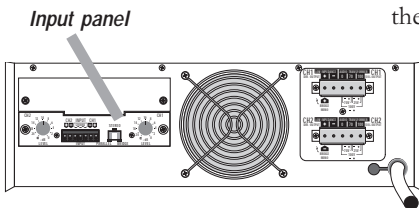

Figure 2a. The input panel's location on the rear panel of the amp
- 2 Position the amplifier so the rear of the chassis is facing you. The input panel is located on the left side of the rear panel. See Figure 2a.